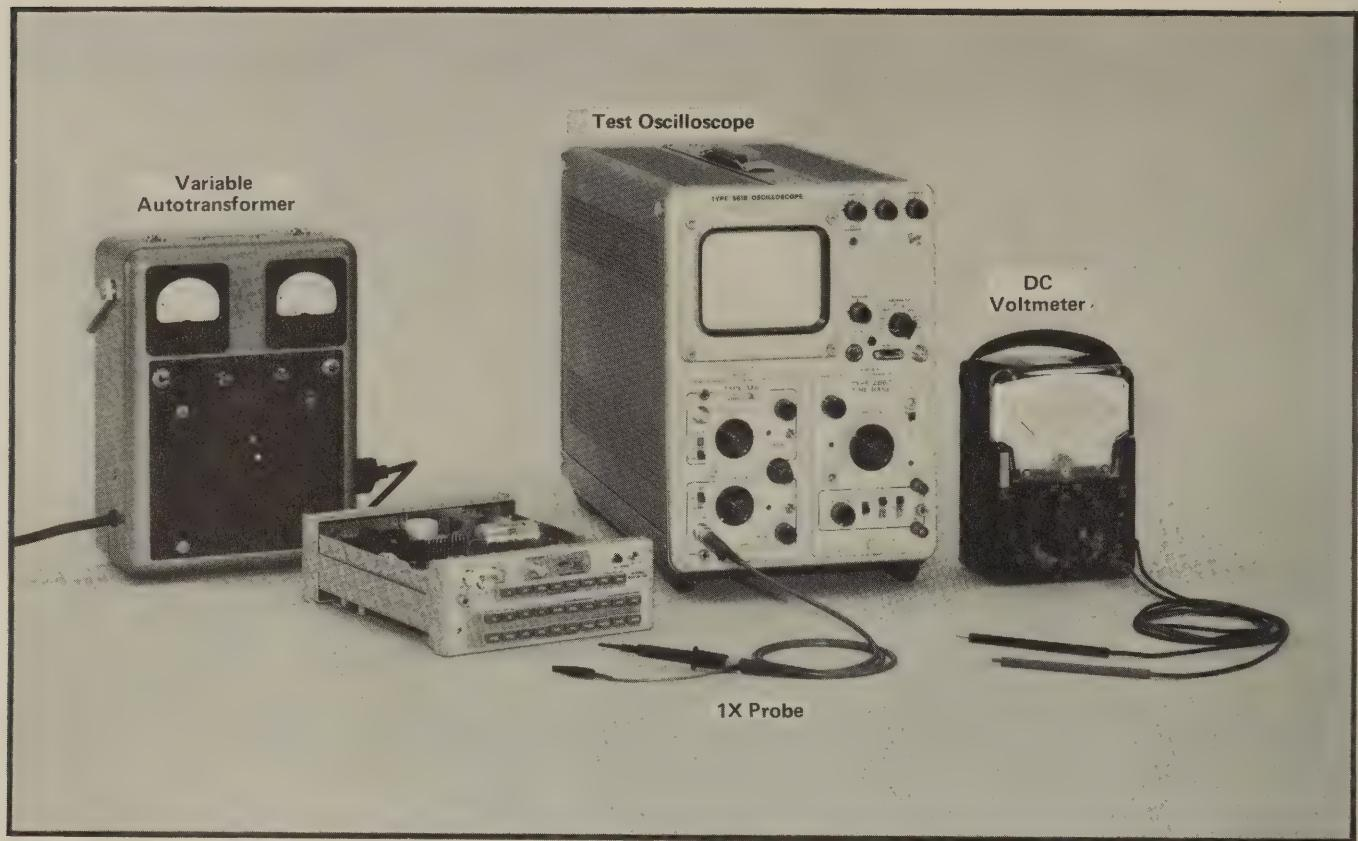

Fig. 5-1. Initial equipment setup for checking and adjusting power supply.
- Equipment setup is shown in Fig. 5-1.
- Test equipment setup is shown in Fig. 5-1.
e. ADJUST—C39 and C43 (Fig. 5-1) simultaneously for maximum amplitude and flatness of the marker display. Adjust C47 and L50 for maximum amplitude. Check modulation percentage as described in step 5f. Modulation percentage should not exceed 4% at 20°C . (Modulation percentage is a maintenance check and not a specification.)